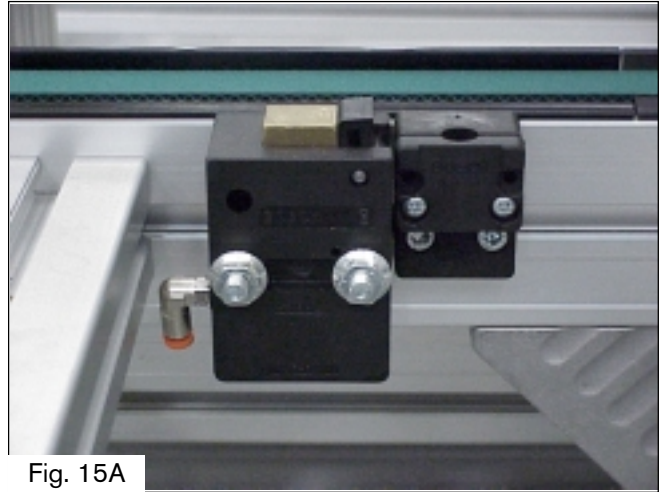

Fig. 15A
2. Position the stop gate (Fig. 15A). The stop gate must be placed on the drive end of the transverse conveyor so that the pallet is not transported over its edge.
3. Attach the stop gate to the transverse conveyor using the T-bolts as shown in (Fig. 15A).